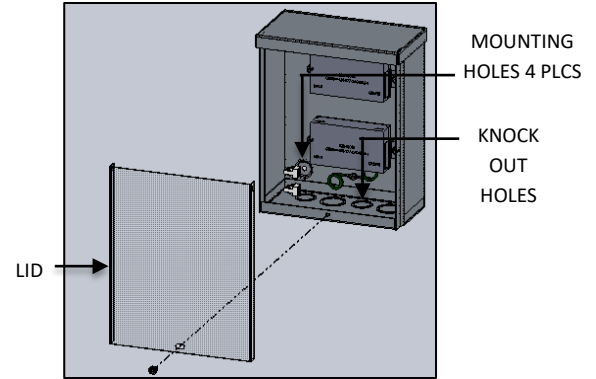
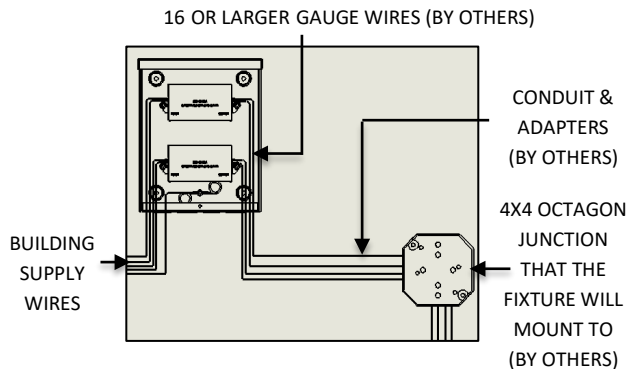
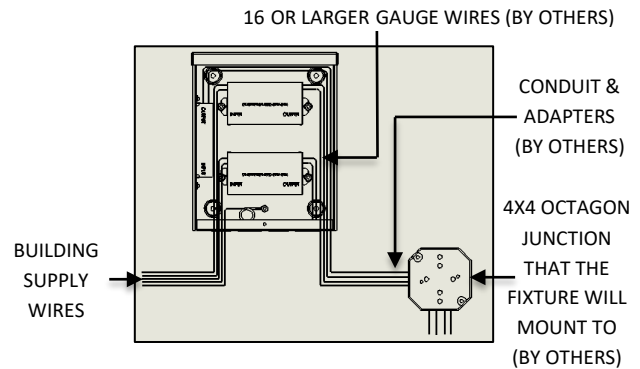

FIG. 9 – REMOTE DRIVER BOX INSTALLATION
FIG. 10 – TWO DRIVER REMOTE BOX SETUP FOR 24" & 36" SERIES
FIG. 11 – THREE DRIVER REMOTE BOX SETUP FOR 48" SERIES
2. Remove the lid of the REMOTE DRIVER HOUSING as shown in FIG. 9.
5. Depending upon the size of the fixture (see WIRE DIAGRAM TABLE on Page 5 for correct Wire Diagram) run (1) set of positive and negative 16 or larger gauge wire (by others) or (2) set of positive and negative 16 or larger gauge wire (by others) from the REMOTE DRIVER HOUSING to the junction box the fixture will mount to (by others). Inside the REMOTE DRIVER HOUSING, connect:
- Dimming wires as shown on the driver in FIG. 10 and FIG. 11 below.